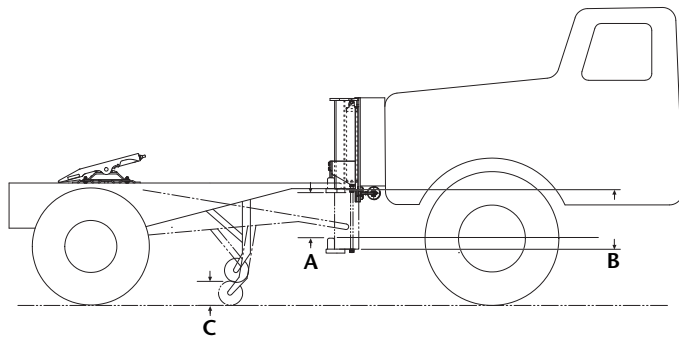

Figure 1
2. Locate the Dolly Master at an elevation that provides adequate clearance between the ground and the dolly jack when the Dolly Master is in the up position (see *Figure 1*).